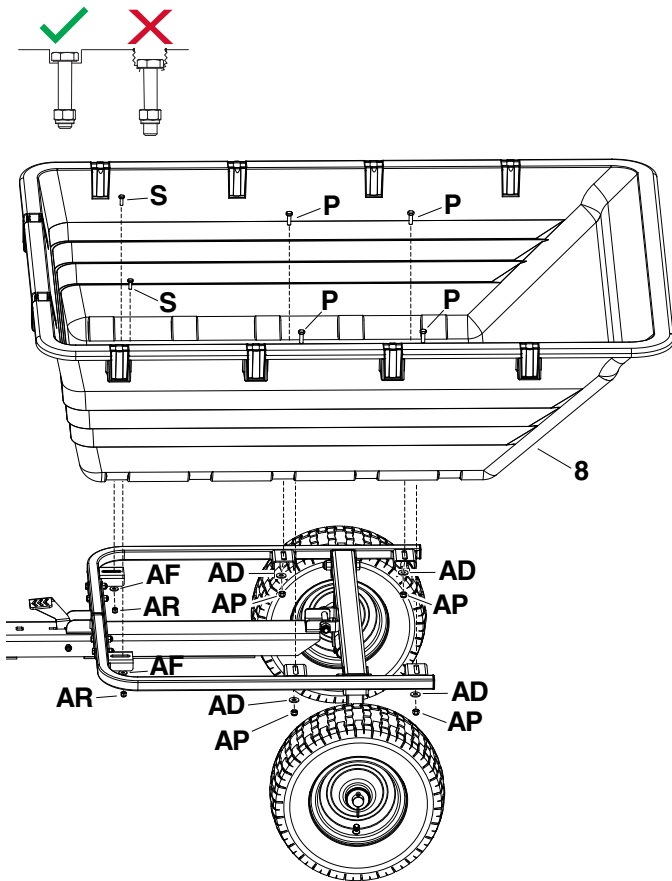

**FIGURE 12**
- Install a 3/16" x 2" cotter pin (T) into the inner hole of the axle (A) (Hole nearest the frame). Split the ends of the cotter pin. Repeat on the other side.
- Install a 2" washer (Z) onto the axle (A) up against the cotter pin just installed on each side.
- Install the wheel & tire assembly (7) on the axle (A). Making sure the valve stem is facing outwards. Repeat on other side.
- Install a 2" washer (Z) onto the axle (A) up against the wheel & tire assembly (7) just installed on each side.
- Install a 3/16" x 2" cotter pin (T) into the outer hole of the axle (A). Split the ends of the cotter pin. Repeat on the other side. See figure 12.